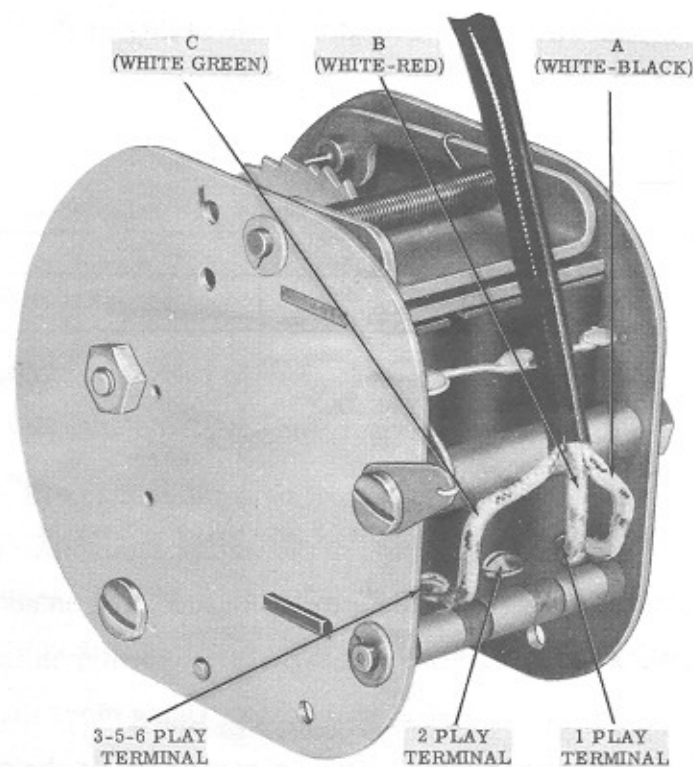

FIG. 4 - VIEW OF ACCUMULATOR
For example, accumulator in Fig. 4 has been wired to show position of wiring for 1 play 10¢ and 3 plays for 25¢ operation, or 1 play 10¢ and 4 plays for 25¢ operation.
- C. Remove white-red tracer wire (B-Fig. 4) from two play terminal on accumulator, and solder to one play terminal where white-black tracer wire (A-Fig. 4) is already connected.